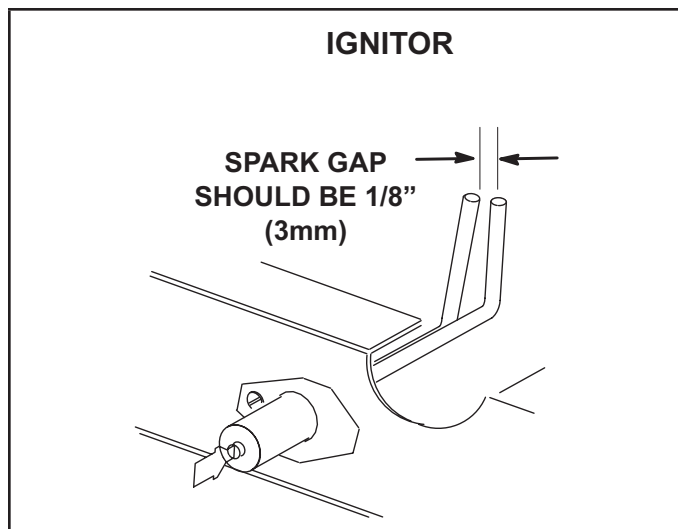

FIGURE 38
- 4 - Locate the ignitor under the left burners. Check ignitor spark gap with appropriately sized twist drills or feeler gauges. See FIGURE 38.